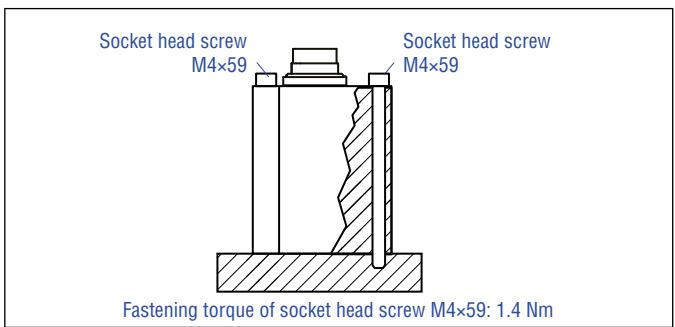

Fig. 22: Mounting with socket head screws M4x59
3. Mount the sensor electronics housing using the three M4x59 hexagon socket screws made of non-magnetic material. Tightening torque: 1.4 Nm (Fig. 22). Secure the screws before installation, e.g. with Loctite 243. Remove the three knurled nuts beforehand.
2. Mount the sensor electronics housing to the sensor rod or HFP profile using three M4×59 hexagon socket screws made of non-magnetic material: Tightening torque: 1.4 Nm (Fig. 22). Secure the screws before installation, e.g. with Loctite 243. Remove the three knurled nuts beforehand.
- Mount the sensor via flange using the three M4×59 hexagon socket screws made of non-magnetic material. Tightening torque: 1.4 Nm (Fig. 22). Remove the three knurled nuts beforehand.